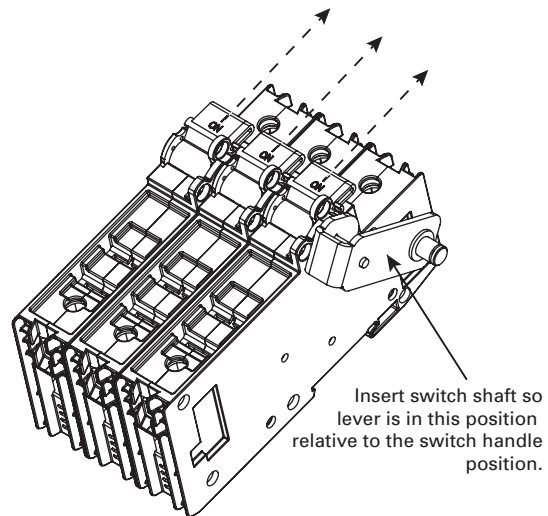

Fig. 2-2. Align shaft lever with switch handle position.
Step 2. Place switch in ON position and insert shaft into the switch's right side until fully seated. Take care to align the shaft's lever so that it points to the lineside openings (see Fig. 2-2).